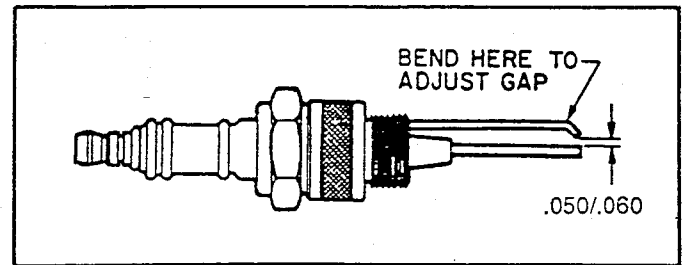

Figure 2. Spark Plug Gap Setting.
2. Remove the spark plug from the burner head, and check the gap between the electrodes. The gap must be within the limits shown in Figure 2.
3. Adjust the gap by bending the outside electrode where shown in Figure 2. If you do not install the plug immediately, protect it from damage until it is reinstalled.
Spark plug dirty or not properly gapped.	Reset spark plug after cleaning, according to dimensions in Figure 2.